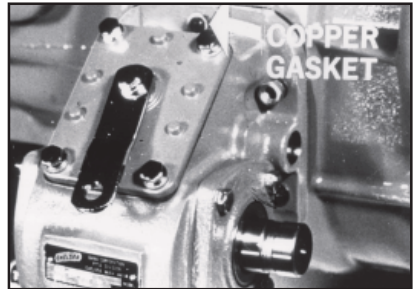

Fig. 8
8. Secure P.T.O. to the transmission. The 220 Series must always have a copper washer under its one capscrew head which goes through the inside of the housing. (See Fig. 8.)